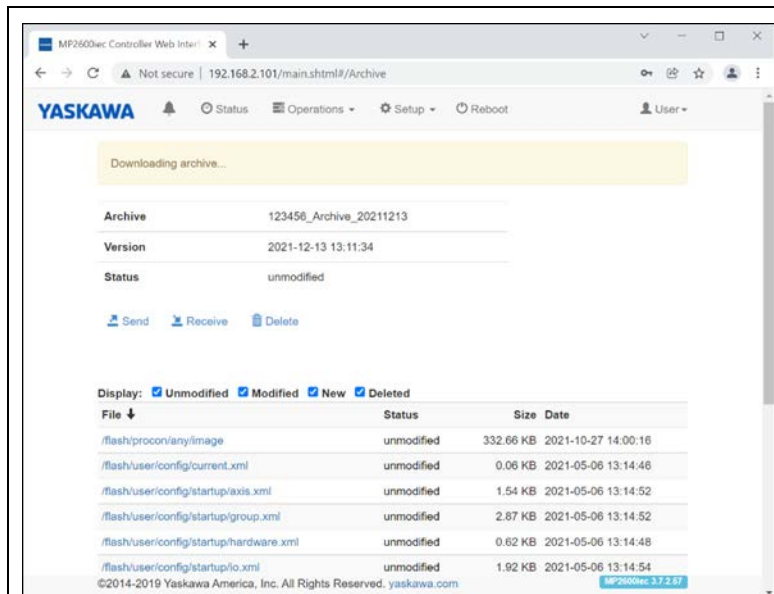

Figure 5-14
- Step 10. A tan colored status banner be displayed indicating the current status “Downloading Archive...”. Allow this to complete. (Refer to Figure 5-14)